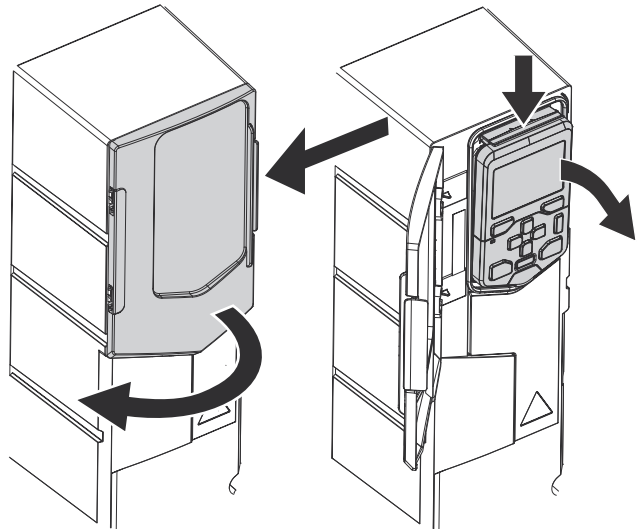

Fig. 45 — Open Keypad Cover and Remove Keypad
To replace the internal enclosure fan for frame sizes R1 and R2 perform the following (see Fig. 45, 46, and 47):
2. Remove the remote keypad, if installed. See Fig. 45.